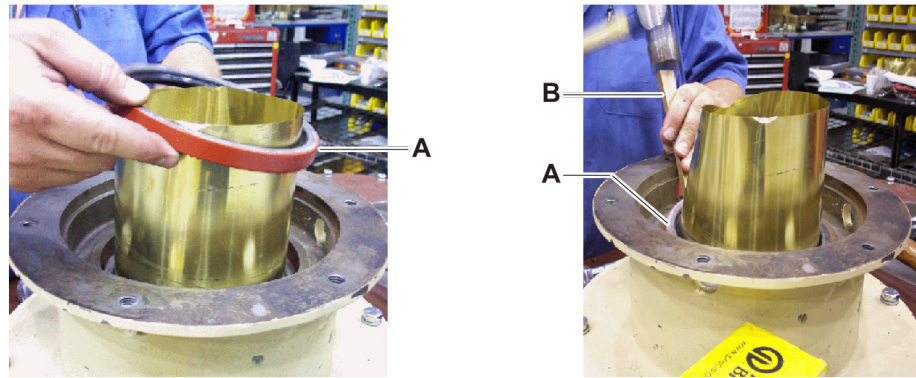

Figure 4
6. Lubricate the oil seals (Figure 4, item A) with a generous layer of Ronex-HD grease. Correctly orient the oil seal to hold the grease inside the housing cavity. Use a piece of very thin greased shim material wrapped around the upper end of the spindle and in-